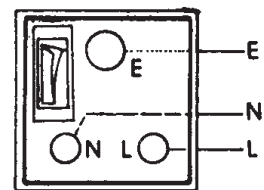

figure 4.13
8. The following picture shows a three pin plug (fig 4.13)